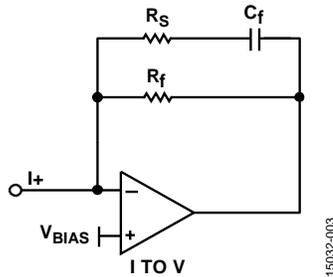

Figure 3. I to V Stage
An ideal I to V converter for a current output DAC is a resistor to ground. However, most DACs do not operate linearly with voltage at the output. It is standard practice to operate an operational amplifier as an I to V converter, creating a virtual ground at the inverting input. Normally, the operational amplifier output stage absorbs clock energy and current steps. However, Figure 3 shows the C_F capacitor shunts high frequency energy to ground while correctly reproducing the desired output with extremely low THD and intermodulation distortion (IMD).
- R_F is the feedback resistor. For lowest noise, maximize gain in the first stage (I to V). However, distortion is related to the open-loop gain (A_{OL}) of the operational amplifier. The higher A_{OL} , the better the distortion performance. Normally, A_{OL} is specified within certain output voltages (see Figure 3). The ADA4896-2 A_{OL} must be 100 dB minimum when the output is -4 V to 4 V at $\pm 5\text{ V}$ power supply, or when distortion increases beyond -4 V to 4 V . Assuming the maximum output current of a DAC is 1 mA, then,